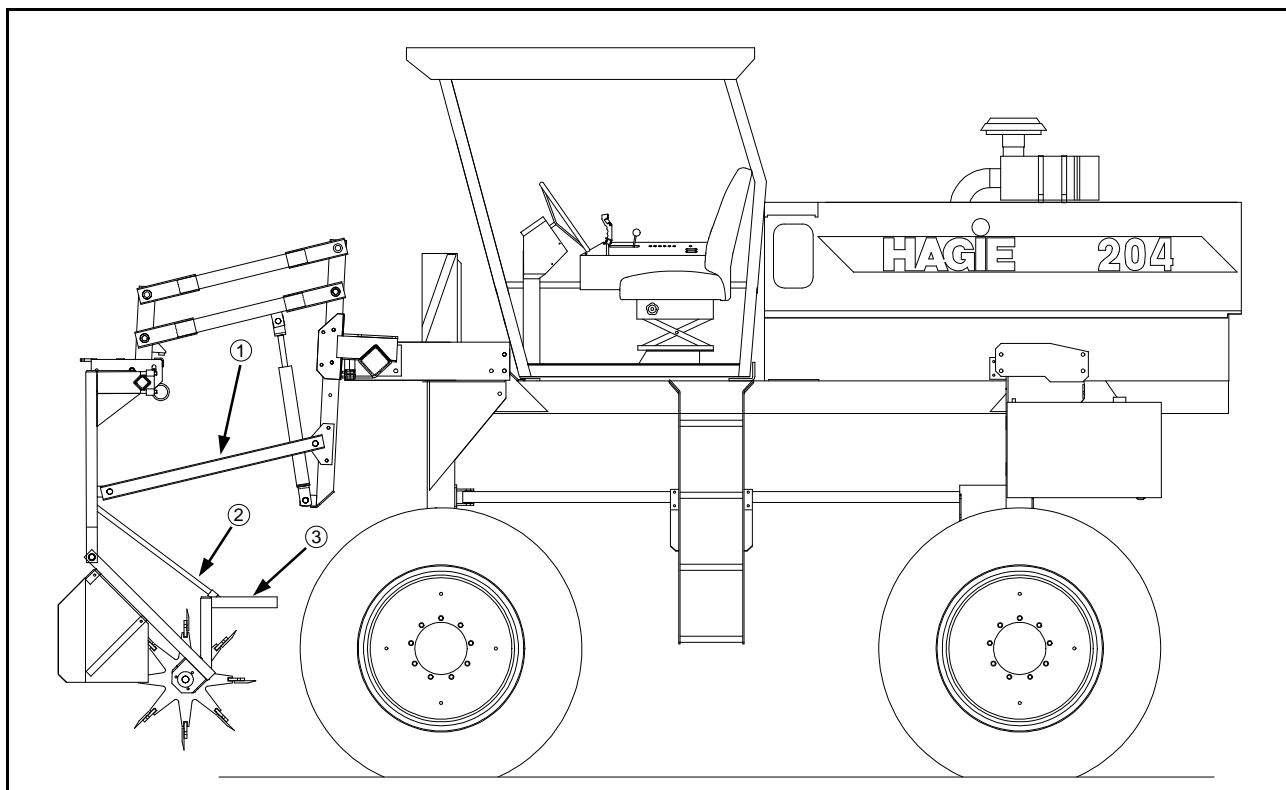

FIG 4.28
4. Attach the lower stabilizer arm to the hoist column and male corn chopper (fig. 4.28, item 1).
5. Adjust the support rod so there is approximately two inches of travel on each end (fig. 4.28, item 2).
6. Add weights (fig. 4.28, item 3).